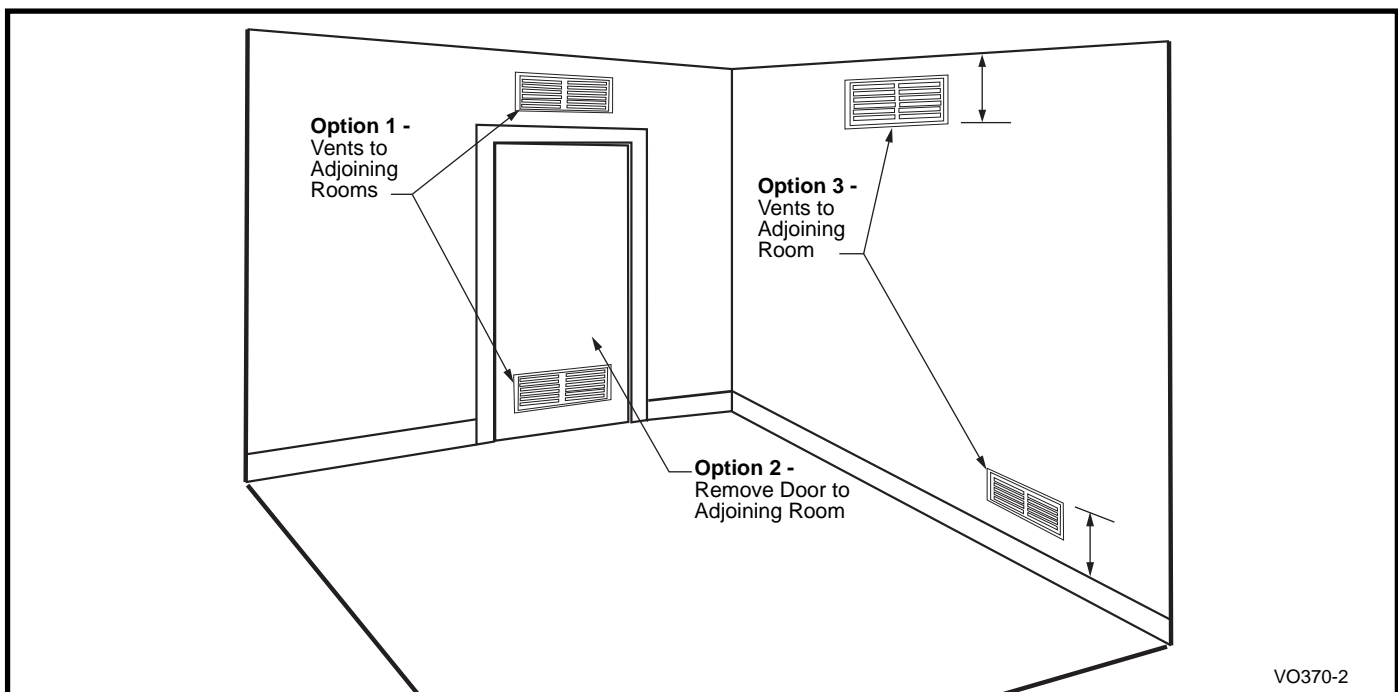

Fig. 3 Supplementing ventilation air.
A. Open or provide at least two ventilating grilles to an adjoining unconfined space. (Fig. 3)